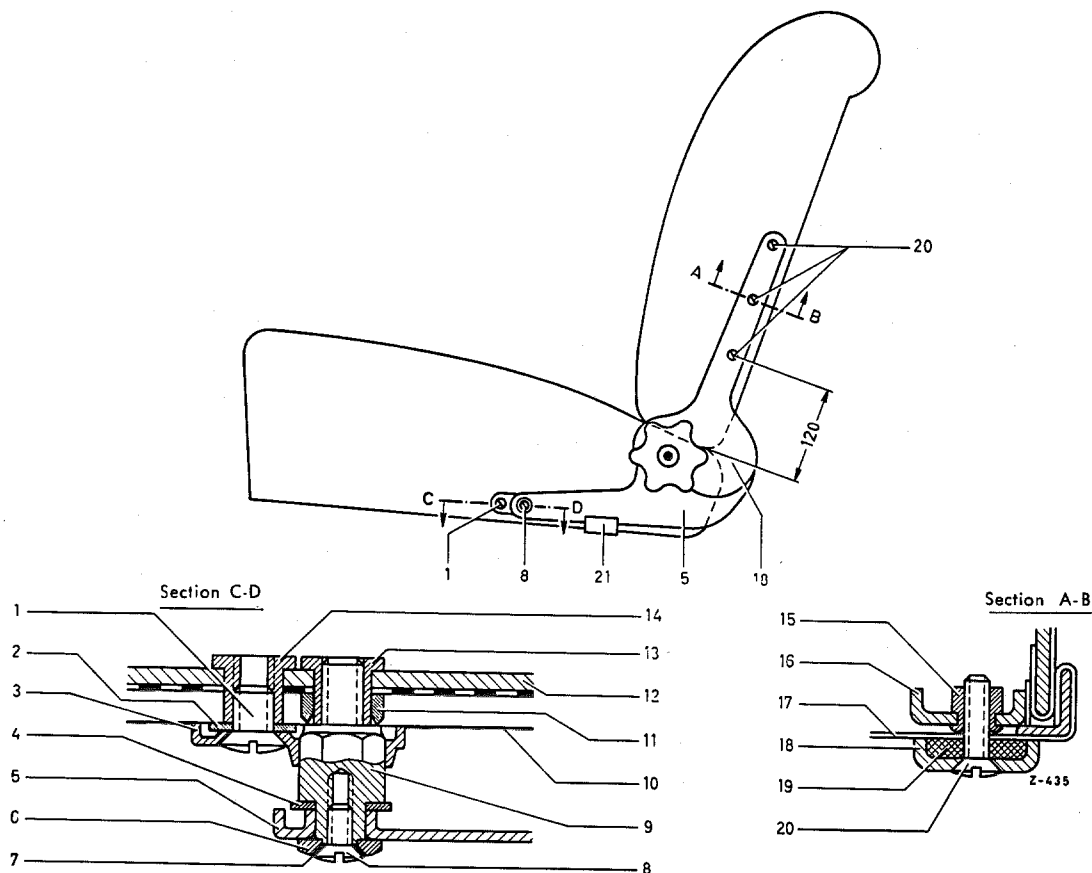

Fig. 91 — 3/1
The seat-back fittings of the individual seats with or without reclining-seat fittings are fixed to the front end of the back rail (5) in the pivot pin (9) (see Fig. 91 — 3/1). The pivot pin (9) is secured in its position by an escutcheon (3). On older-type seats a thrust ring with two plane faces is installed between the pivot pin and the seat frame. The leatherette cover at the side of the seat is held between the thrust ring and the pivot pin. When the pivot pin is tightened, the leatherette can turn with the pin and form spiral folds. It is for this reason that sometimes the pivot pin is not fully tightened through no fault of the mechanic, so that as a consequence it is subject to bending instead of to shearing stress.
For this reason, the thrust ring has been replaced by a new thrust ring (11) with cutting edge (see Fig. 91 — 3/1). This thrust ring (11) should be installed in such a way that the cutting edge under the leatherette cover (10) points toward the outside. When the pivot pin (9) is tightened, the thrust ring cuts through the leatherette cover. The pivot pin (9) can then be tightened to make metallic contact with the cutting edge of the thrust ring (11).
2. Unscrew the two oval-head countersunk screws (8) at the seat-back rails (5) and remove the seat-back (see Fig. 91 — 3/1).
3. Remove the oval-head countersunk screws (1) at the chromium-plated escutcheons (3) and remove the escutcheons (3) (see Fig. 91 — 3/1).
4. Unscrew the pivot pins (9).
2. Unscrew the two oval-head countersunk screws (8) at the seat-back rails (5) and take off the seat back (see Fig. 91 — 3/1).
3. Unscrew the oval-head countersunk screws (1) at the chromium-plated escutcheons (3) and take off the escutcheons (3) (see Fig. 91 — 3/1).